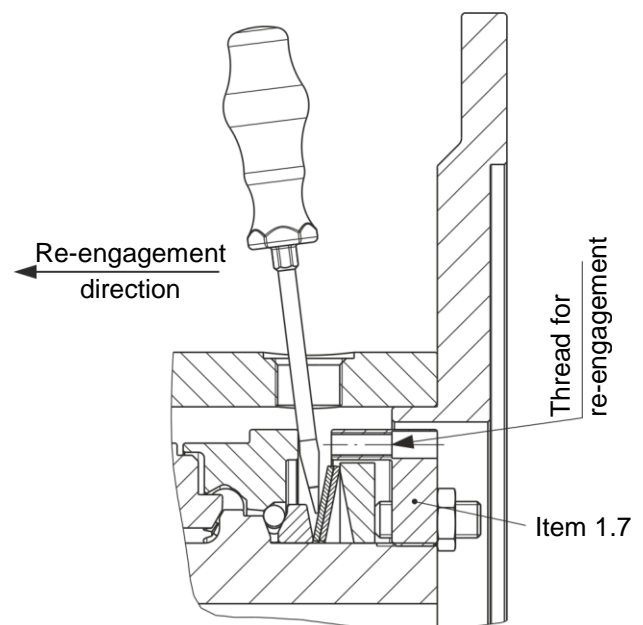

Fig. 5
## Re-engagement (Fig. 5)
There are two bores (180° offset to one another) for manual clutch re-engagement. They are locked with screw plugs (13). In order to re-engage the clutch, at least one of the two screw plugs (13), including its O-ring (14), must be loosened and removed. EAS®.Compact® overload clutch re-engagement is carried out by applying axial pressure to the thrust washer (1.3) in the direction of the output (flange Y) using a suitable lever tool (Fig. 5). It may be necessary to turn slightly between the pressure flange (1.2) and the thrust washer (1.3).
For high torque ranges (Types 490.7\_... and 490.8\_...), engagement using a lever tool is no longer easily possible. Alternatively, re-engagement can take place by evenly screwing three screws M8 (not included in the standard scope of delivery) into the adjusting nut (Item 1.7 / Fig. 5). On this variant, it may be necessary to turn slightly between the pressure flange (1.2) and the thrust washer (1.3).